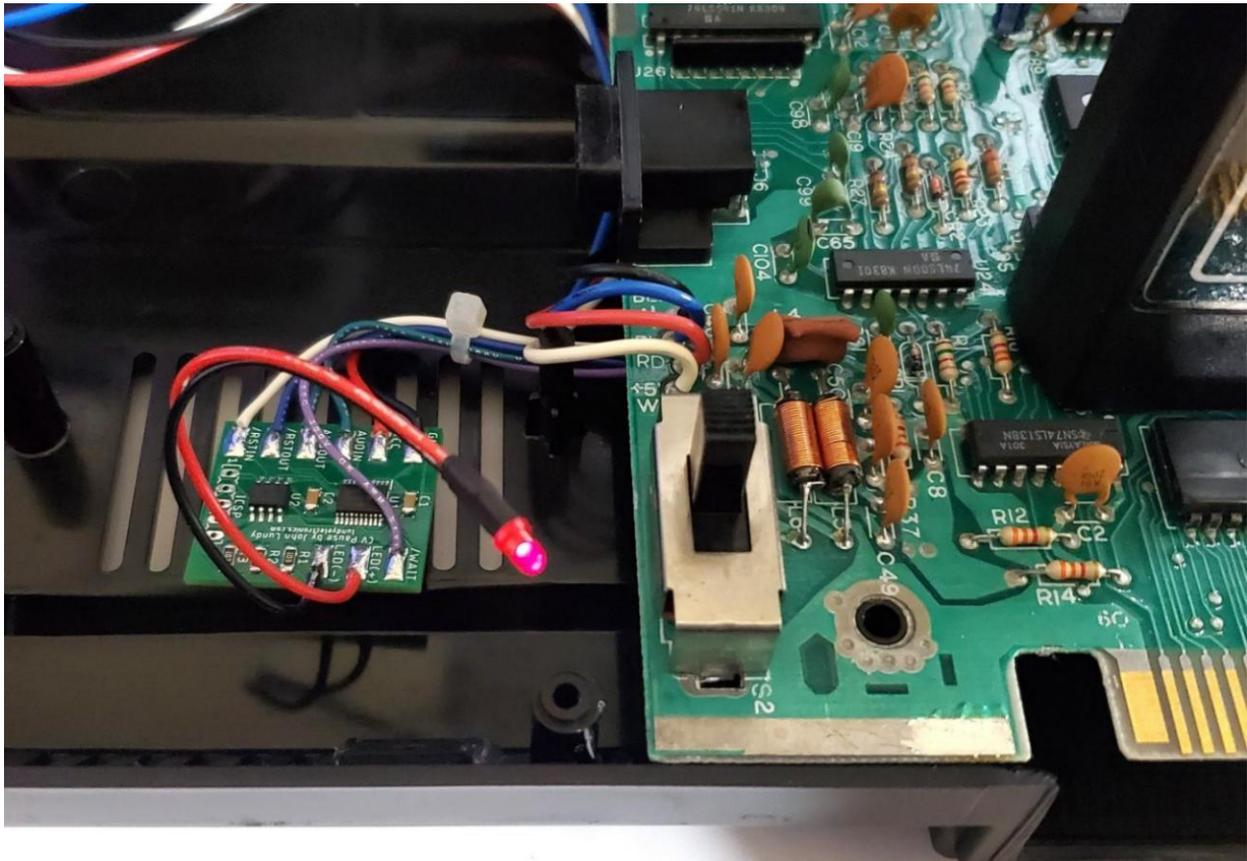

Figure 9: Proper orientation of Pause Mod placement
Step 5: Install ColecoVision PCB without RF shields into lower case housing to test unit for proper operation. See **Figure 9** for proper orientation of Pause Mod placement.